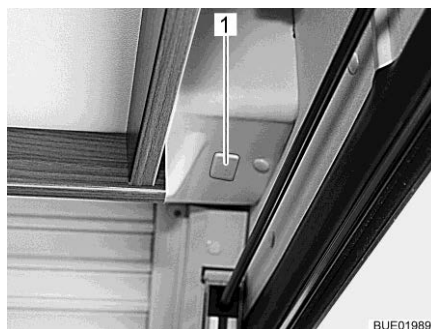

Fig. 106 Access to emergency operation
- Remove cover (Fig. 106,1) from the holder for the hand crank.
- Close the holder for the hand crank with the cover (Fig. 106,1).